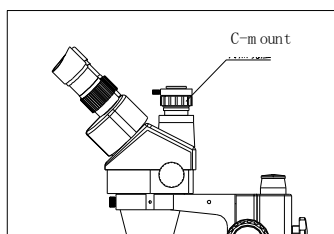

Fig. 8
- 1)Adjust the CTV to a suitable position by rotating C-mount. Note: The range of the adjustment: 1~2mm in general.(Fig.8